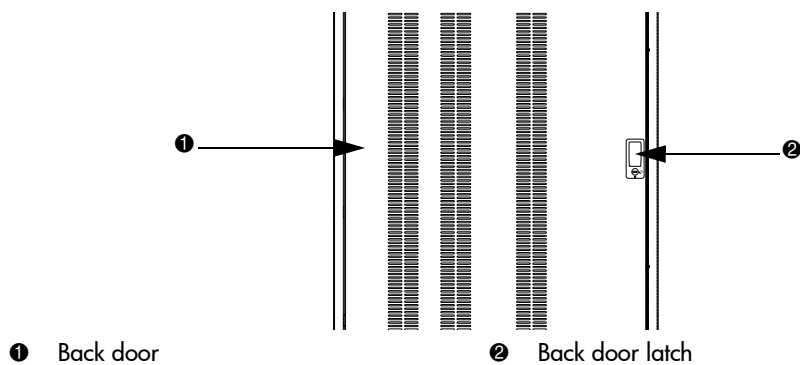

Figure 23: Closing the back door
2. Close and lock the back door using the key provided in the accessory kit (see Figure 23).